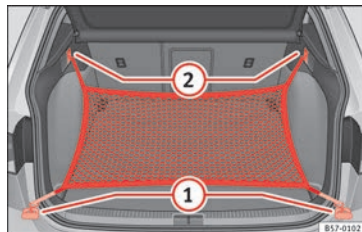

Fig. 157 In the luggage compartment: rings ① and hooks ② for attaching the net bag.
- Secure the short net hooks to the fastening rings » Fig. 157 ① » ⚠. The bag zip should be facing upwards.
- Secure the straps in the bag hooks ②.